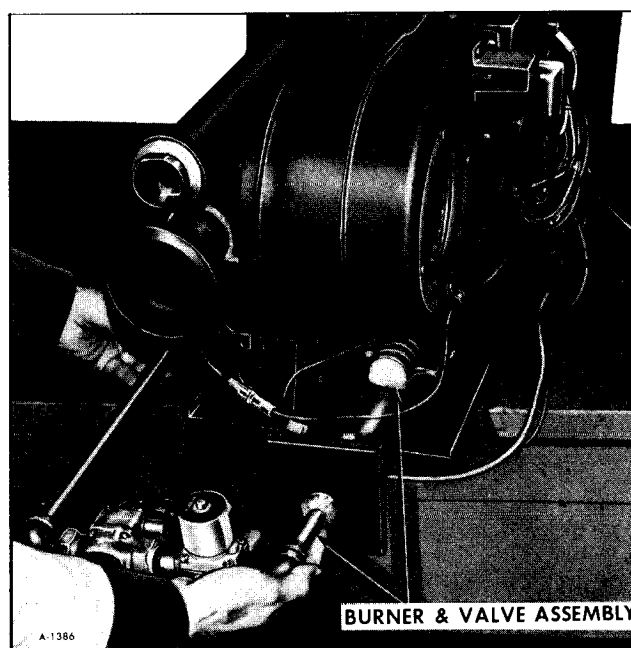

Figure 18-Removing Burner and Valve
6. Remove burner, valve(s), and main gas line all as a unit (See figure 18).
2. Install burner, valve(s) and gas lines in combustion chamber as a unit (See figure 18).